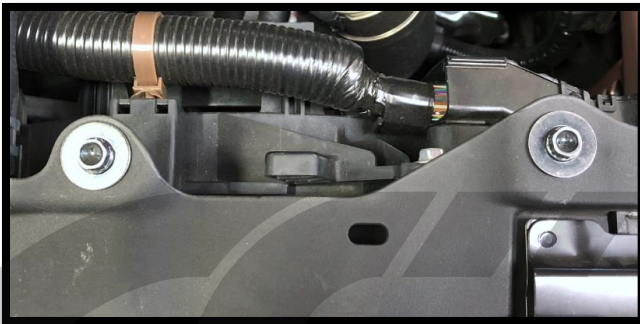

Figure 1f
- g) **Optional:** Reinstall the two 10mm bolts removed in step 1c for a clean look. Shown in **Figure 1f**. **Skip this step if installing the CS heatshield.**